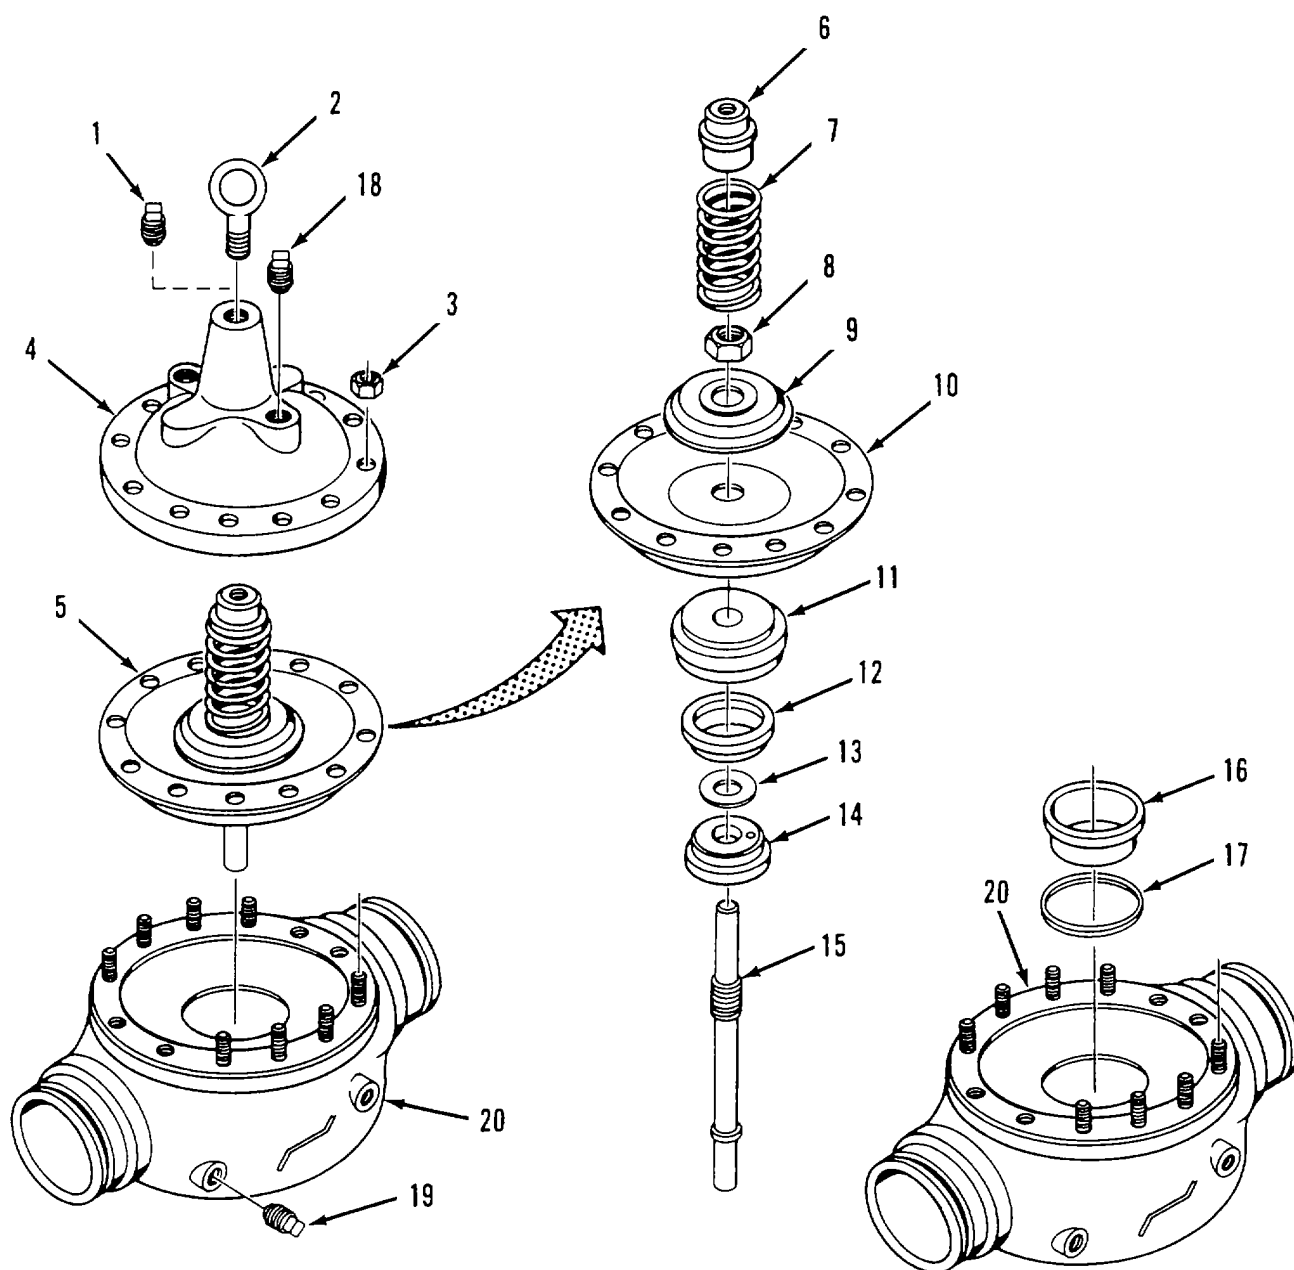

Figure 4-20. Pressure Regulating Valve Assembly.
*Assemble Pressure Regulating Valve. Refer to figure 4-20.*